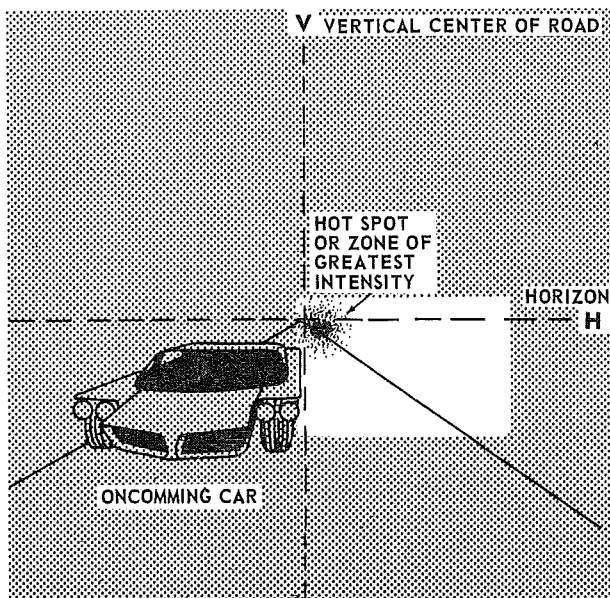

FIG. 95—HEAD LAMP AIMING CHART
b. Most modern sealed beam lamps have an asymmetrical beam designed to give maximum visibility down the road with the least interference to an approaching driver. The light pattern for the lamp is shown in figure 95. Because the "hot" spot of the lamp, or area of greatest light intensity is in the upper left corner of the light pattern, it is very important that the light aiming be kept accurate.